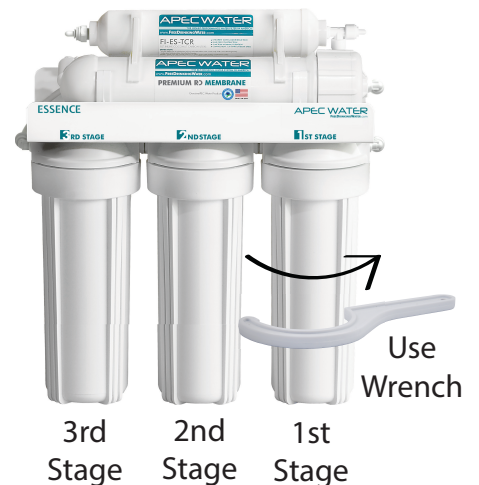

Fig. 3
**Fig. 3** Use the wrench provided to completely tighten the housing starting from 1st-stage. Repeat this step for the 2nd stage housing in the middle, and for the 3rd stage housing on the left.